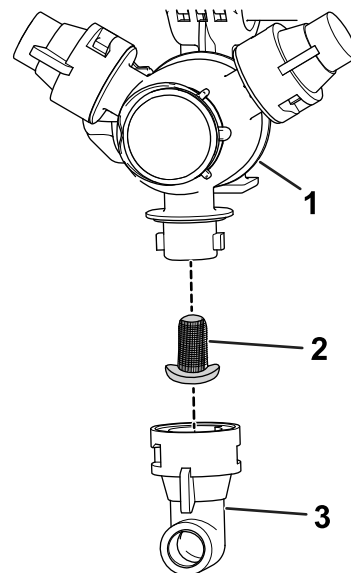

Figure 103
2. Remove the nozzle from the spray turret (Figure 103).
3. Remove the old nozzle filter (Figure 103).
4. Install the new nozzle filter (Figure 103).
5. Install the nozzle onto the spray turret (Figure 103).